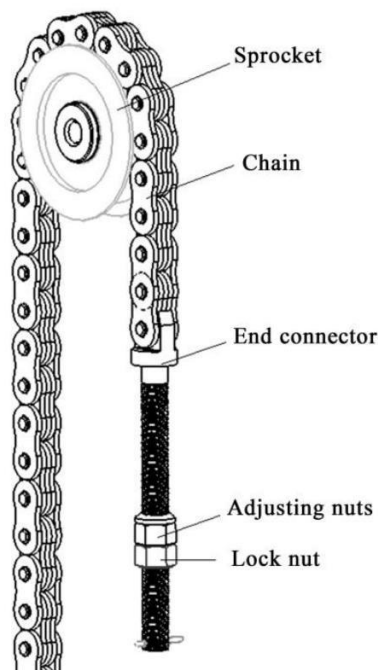

Fig. 6-19
- (1) Put a pallet on the fork and park the car on flat ground.
- (2) Make the forks and pallets fall to the ground.
- (3) Remove the upper end joint of the chain and remove the chain from the sprocket, as shown in Fig. 6-19.
- (4) Lift the inner mast.
- (5) After confirming that the fork arm carrier has been disengaged from the inner door frame, remove the fork arm carrier.
- (6) Replacement of main roller: